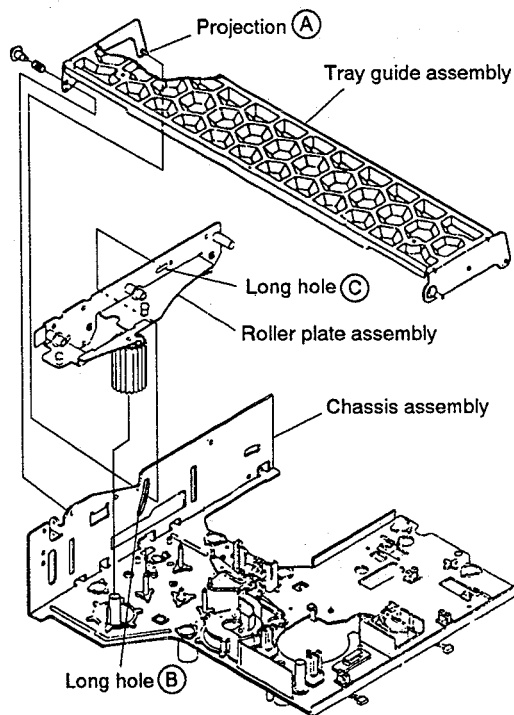

Fig. 17
- ① Install the tray guide assembly in the position where projection A of the tray guide assembly fits into the long hole B of the chassis assembly and the long hole C of the roller plate assembly. (Fig.17)